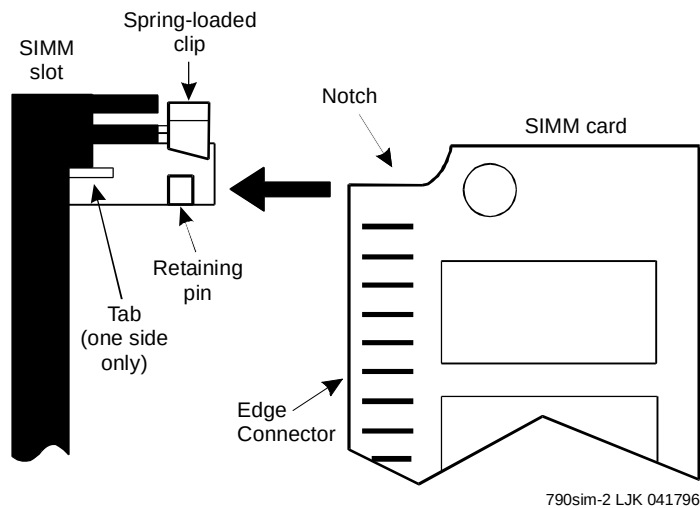

Figure 5-7. Align the SIMM with the SIMM Socket
3. Locate the notch cutout area on one corner of the SIMM. See Figure 5-7.
4. Align the SIMM with the slot in the center of the socket. See Figure 5-7.